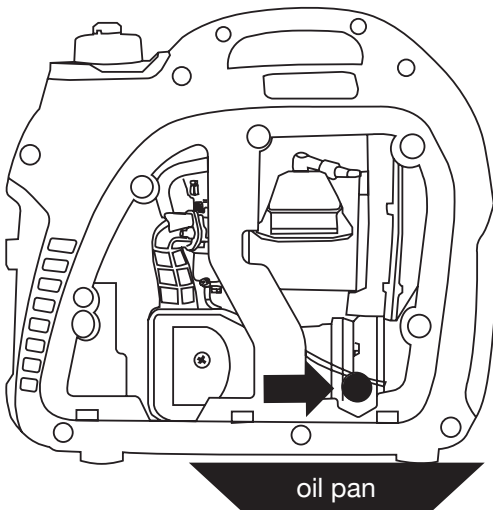

Figure 13: Place oil pan under oil fill/drain plug
4. Place oil pan (or suitable container) under the oil fill/drain plug (see *Figure 13*).